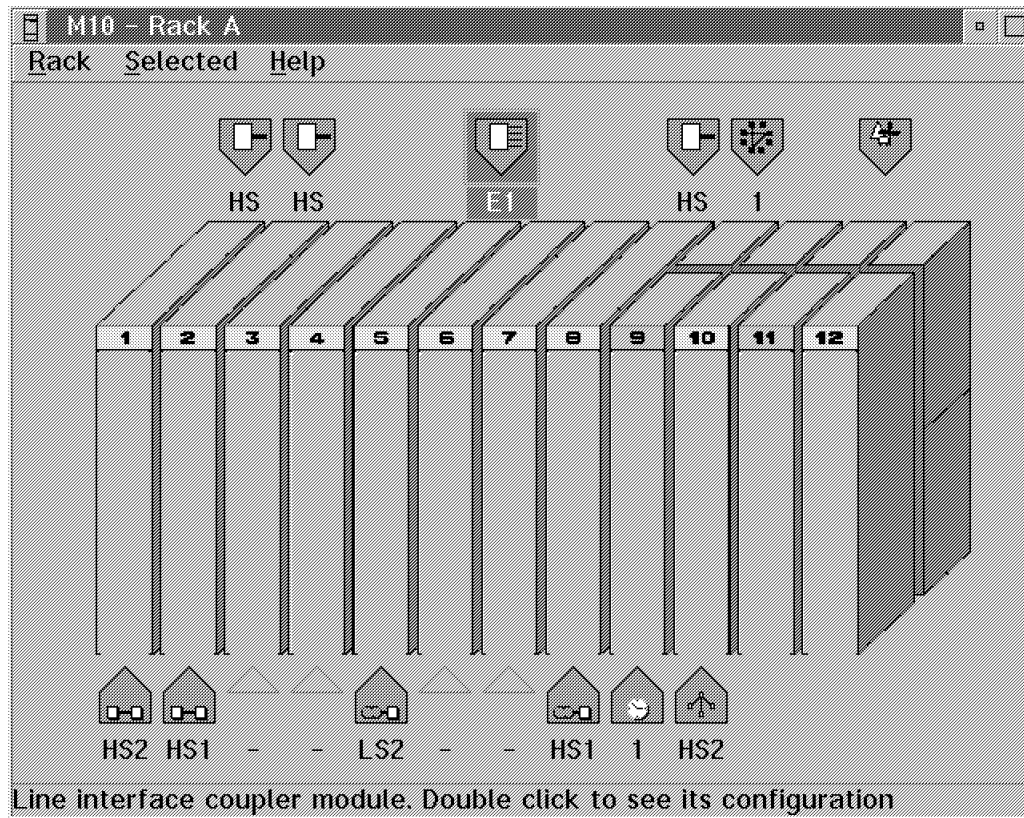

Figure 20. Rack Window.
- ___ 8. Close the *Rack Window*. (Figure 20)